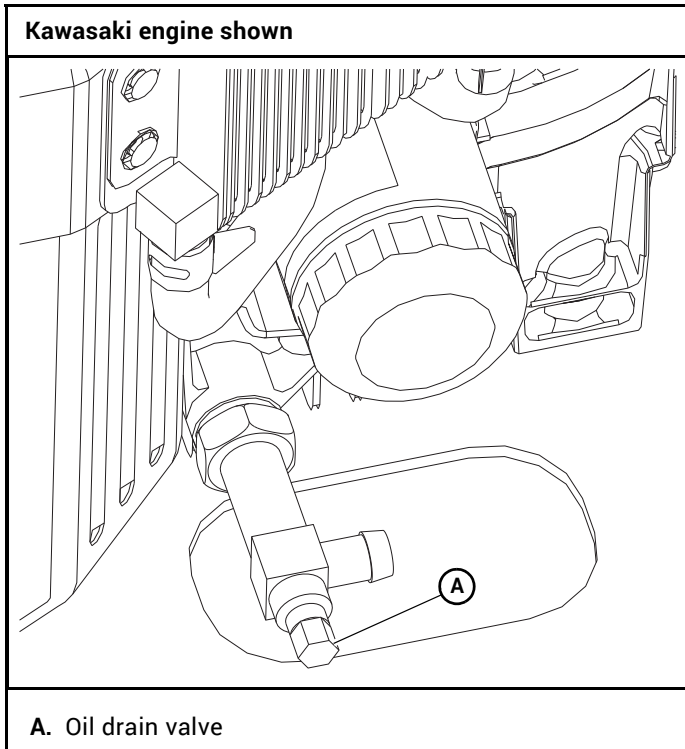
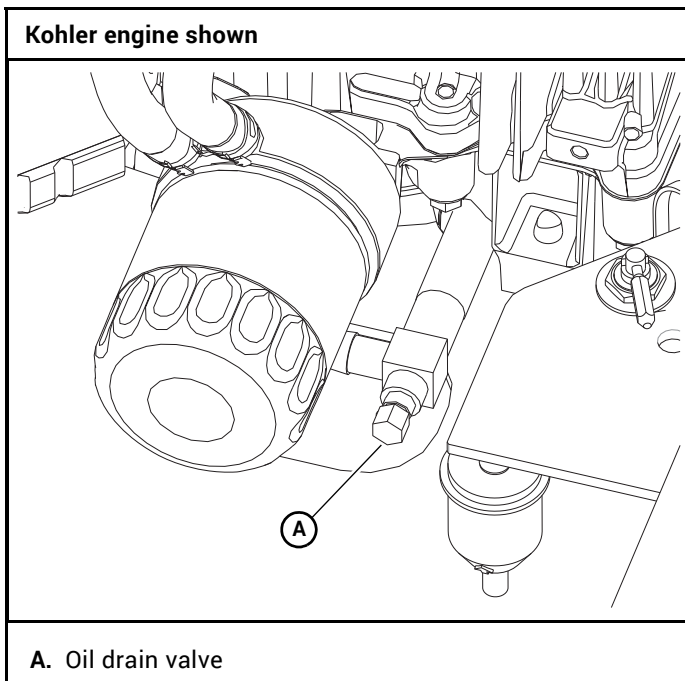

Figure 4-12
Figure 4-13
1. Locate the oil drain valve on the engine. Figure 4-12 & Figure 4-13